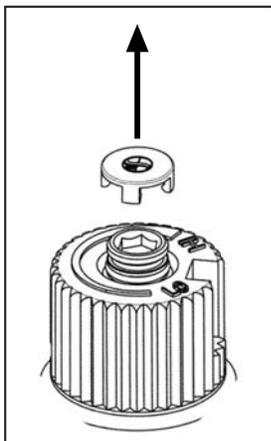

Figure 38: Removing valve cap.
- a) Remove the black protection cap from the HI/LO knob by hand shown in Figure 38.
- g) Re-attach the black protection cap that was removed in step a (Figure 38).